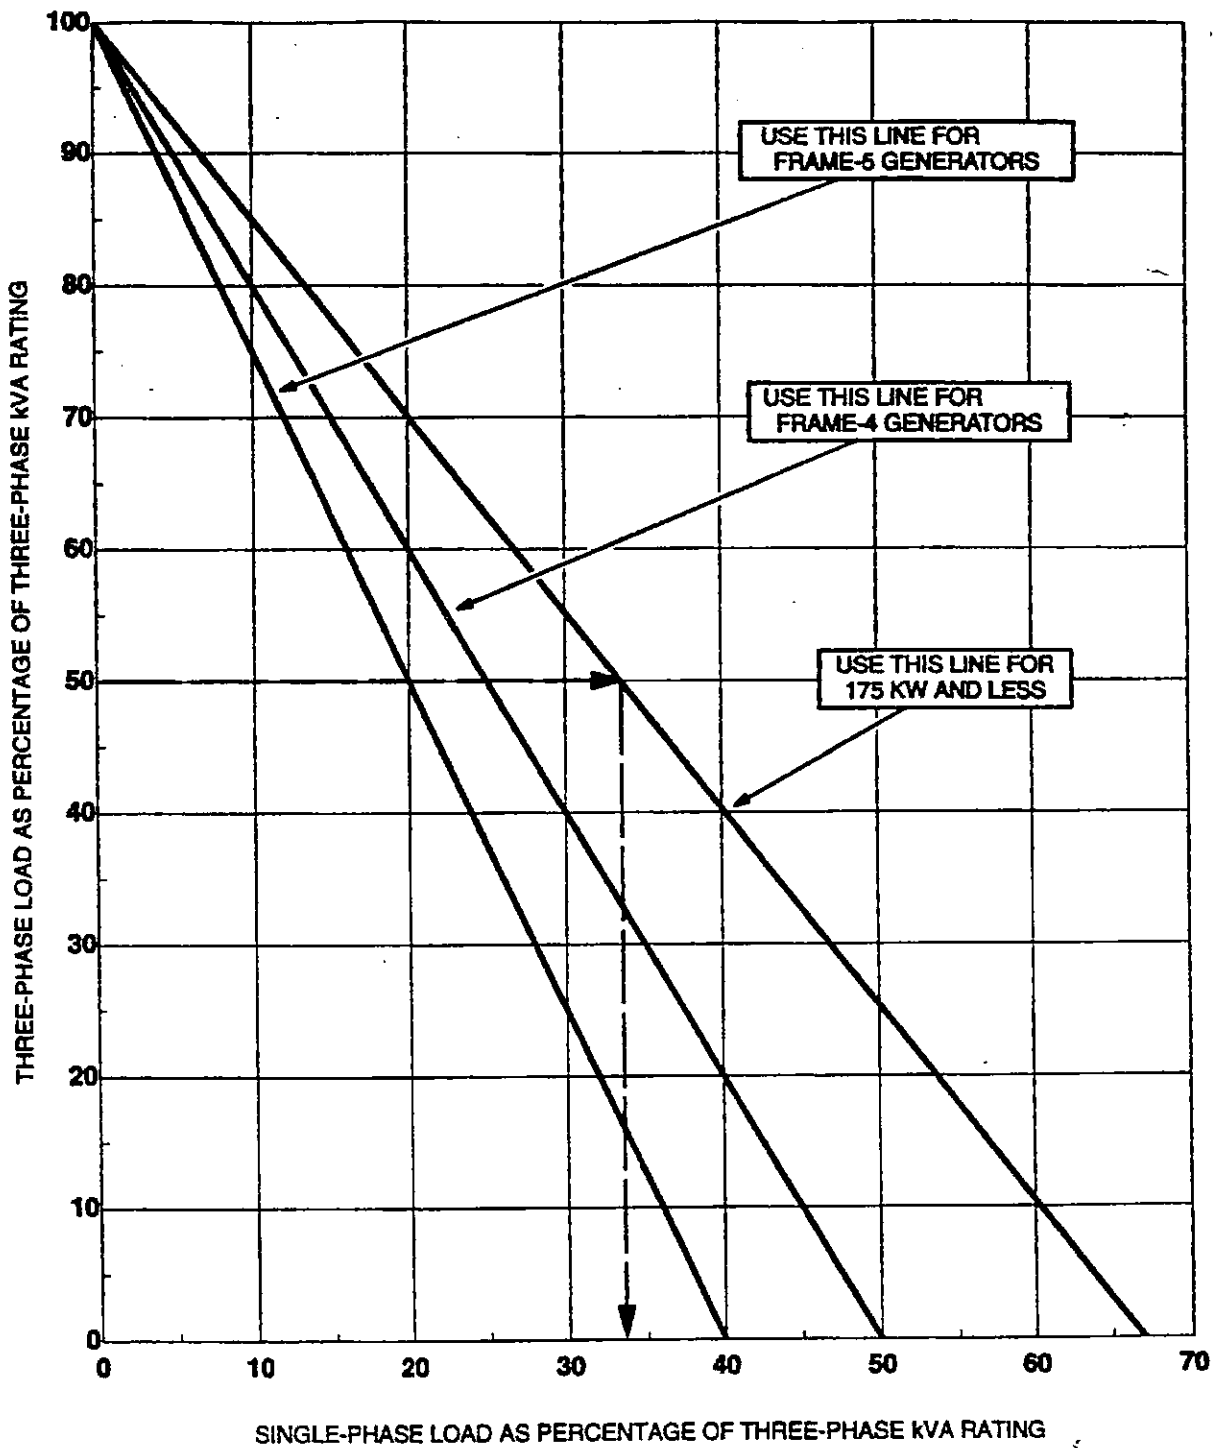

FIGURE 41. ALLOWABLE UNBALANCED SINGLE-PHASE LOAD
Single-phase loads should be distributed as evenly as possible between the three phases of a three-phase generator set in order to fully utilize the rated capacity (kVA and kW) of the set and to limit voltage unbalance. Figure 41 can be used to determine the maximum permissible percentage of unbalanced single-phase load, as illustrated by the example calculation.
Generally, the larger the generator set, the lower the percentage of single-phase power that can be taken. Figure 41 includes single-phase percentage lines for TPS intermediate-size Frame-4 and Frame-5 generators. Confirm the frame size by referring to the applicable Alternator Data Sheet referenced by the generator set Specification Sheet. For generator sets rated more than 500kW, load unbalance should not exceed 10 percent.
2. Find the percentage of allowable single-phase load, as shown by the arrows in Figure 41. In this case, it is approximately 34 percent of the three-phase rating.